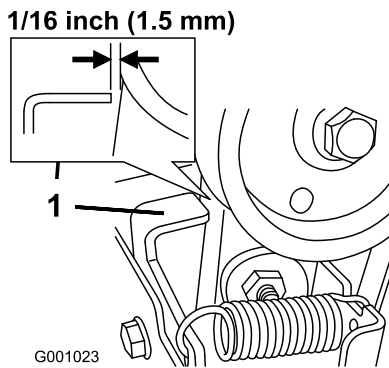

Figure 38
- With the auger/impeller lever disengaged, ensure that the gap between the auger clutch assembly and the tab is 1/16 inch (1.5 mm) (Figure 38).